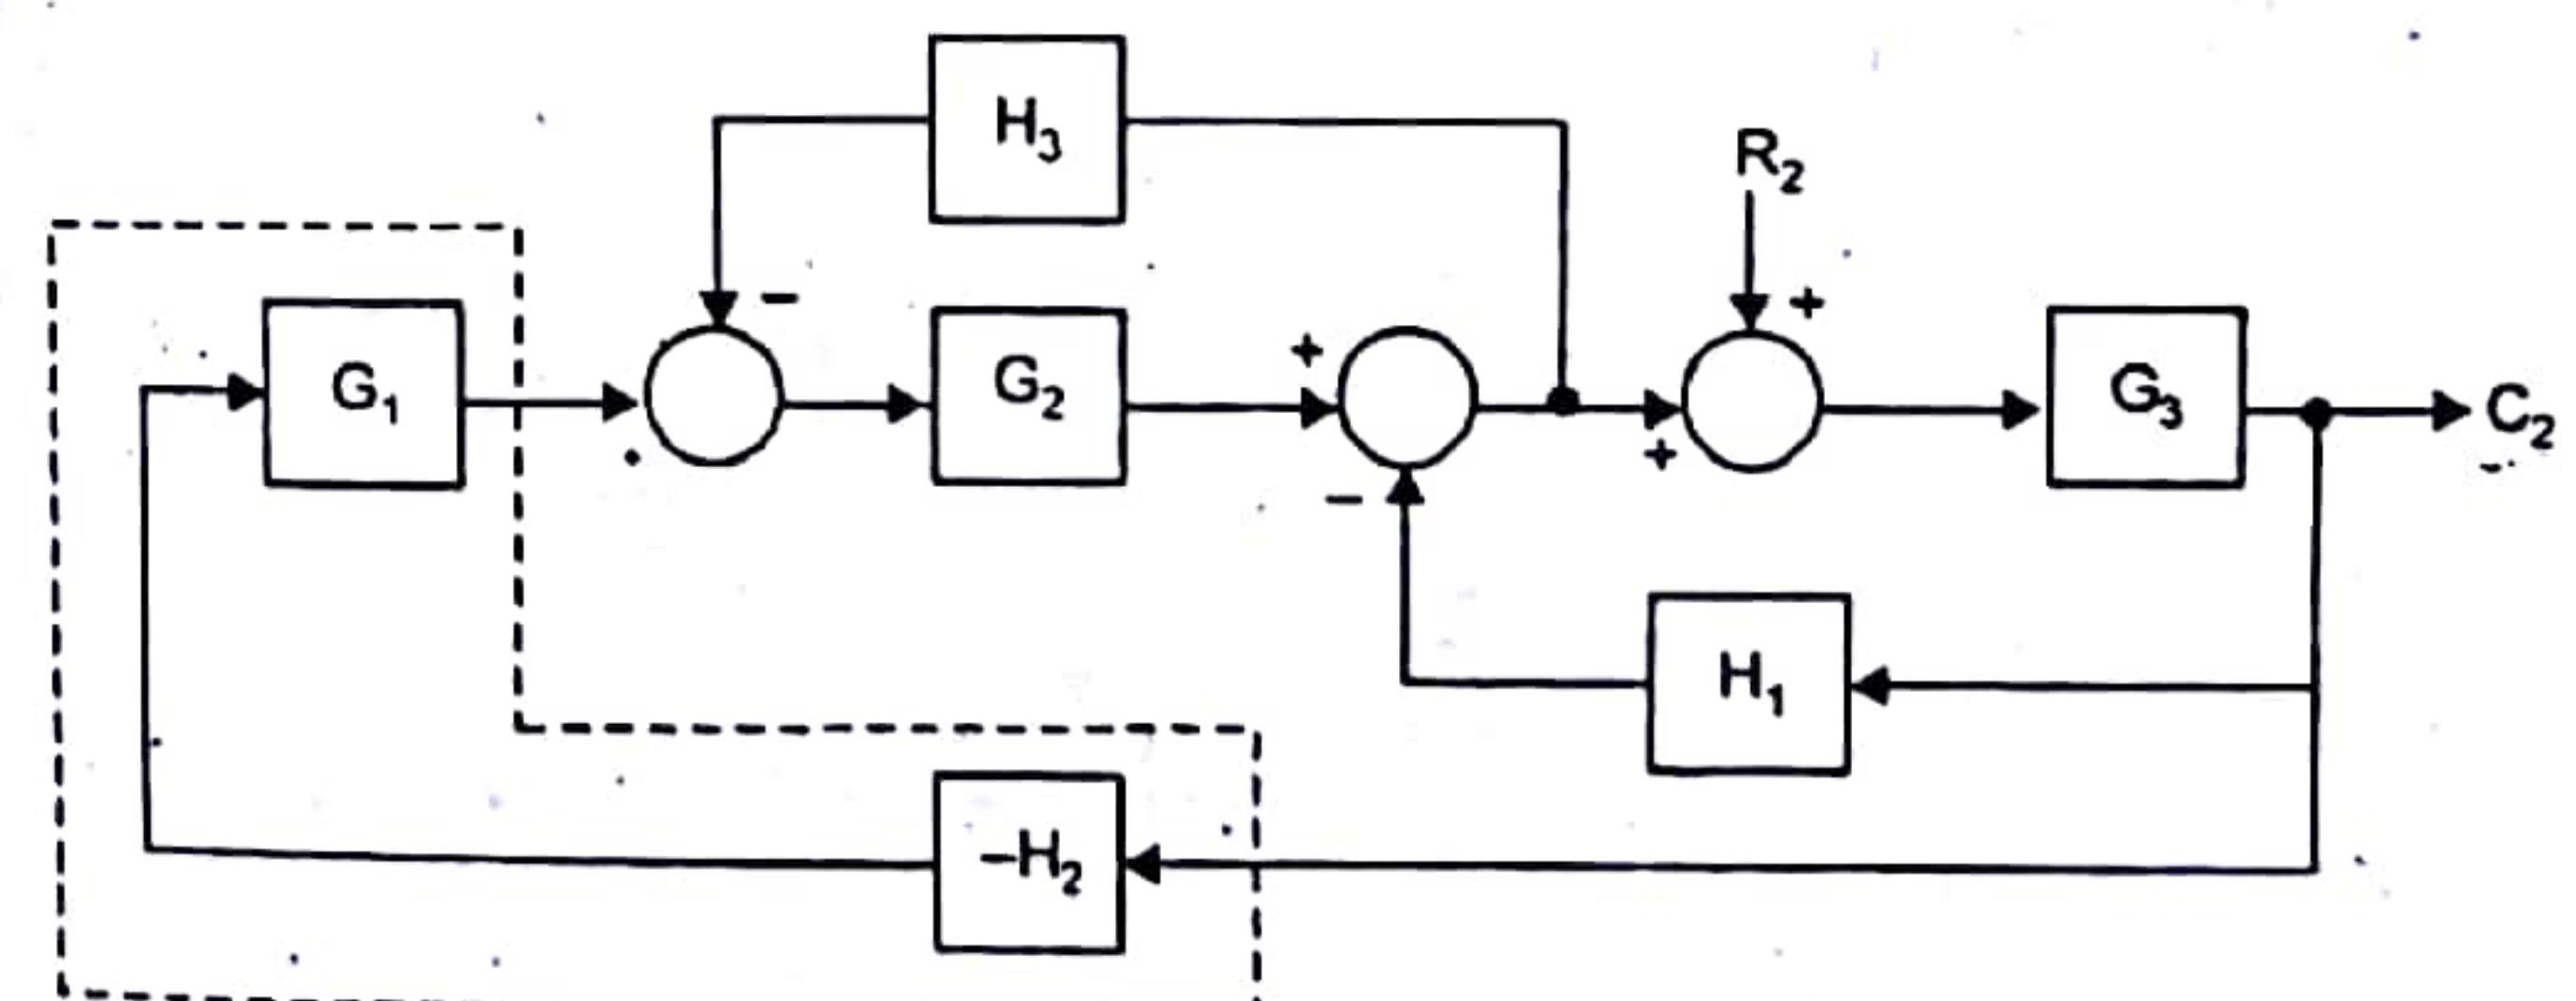
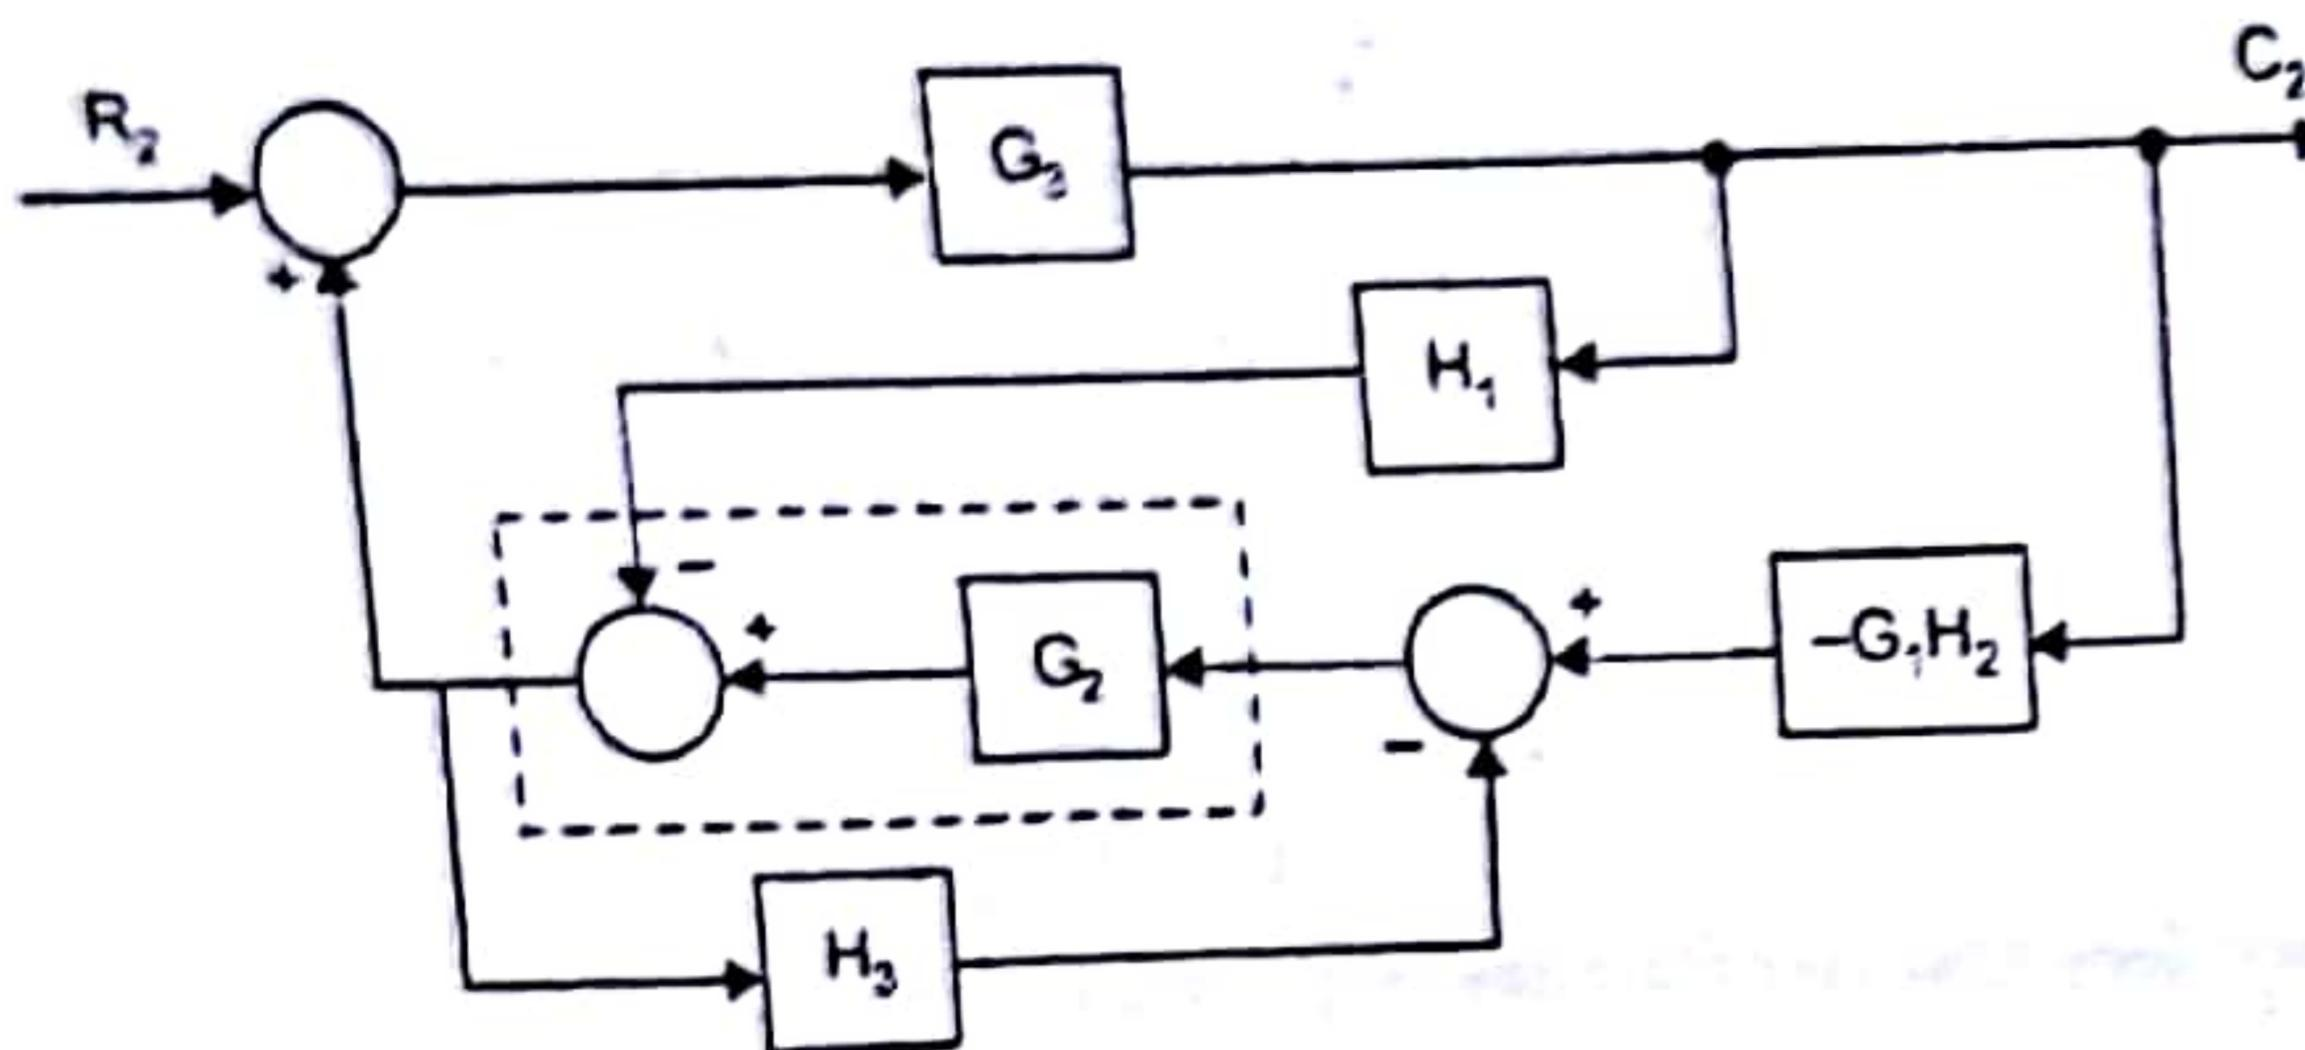

Fig. 8.
Fig. 9.
**(B)  $R_2$  acting alone:** The excitation  $R_1$  is made zero and the output is produced by the excitation  $R_2$  alone. Let the output be  $C_2$ . By making  $R_1 = 0$ , the summing point at  $R_1$  is removed and a negative sign is attached to the feedback path gain  $H_2$ . The resulting block diagram is shown in fig. 8.
**Step 1:** Combining the  $G_1$  and  $-H_2$  in cascade into a single block and rearranging the diagram in Fig. 8, the resulting block diagram is as shown in Fig. 9.